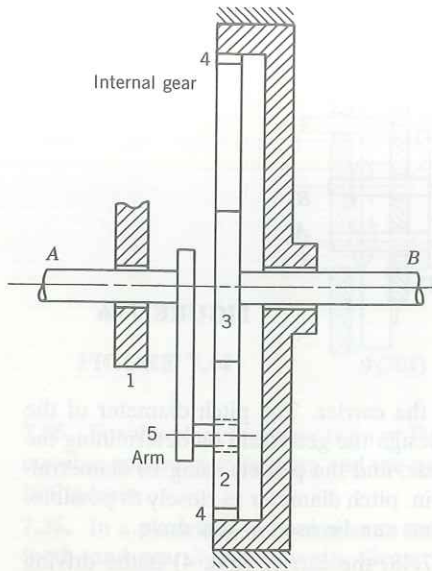

FIGURE 7.49
- 7.42. Design a three-gear planetary train having an output to input speed ratio of 1:8, with the output shaft turning in the same direction as the input. Use the configuration of Fig. 7.49 and indicate which shaft is the input. Select the smallest gears possible from the following available stock sizes: even tooth numbers from 12 to 100 and every fourth number from 100 to 160. Also find the maximum number of planets (gear 2) that could be used.